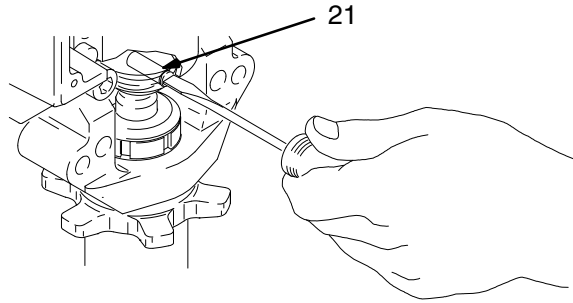

Fig. 24
2. Fig. 24. Push pin (21) into holes and retaining spring into groove all the way around connecting rod.